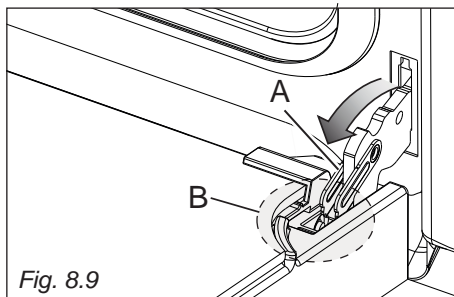

Fig. 8.9
- Open the lever "A" completely on the left and right hinges (fig. 8.9).
- Gently close the door until left and right hinge levers "A" are hooked to part "B" of the door (fig. 8.9).